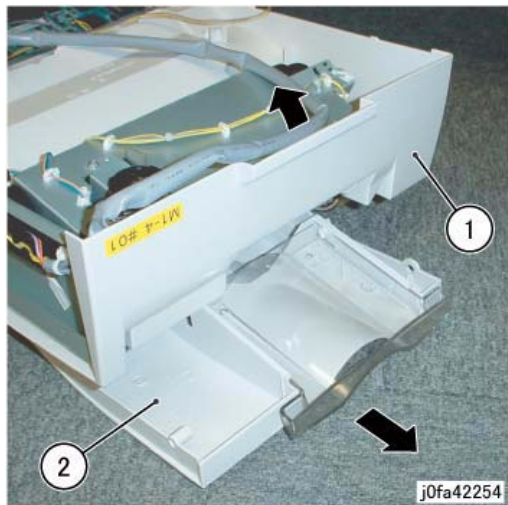

Figure 4 Disconnecting the Connector (j0fa42255)
8. Disconnect Connector. (Figure 4)